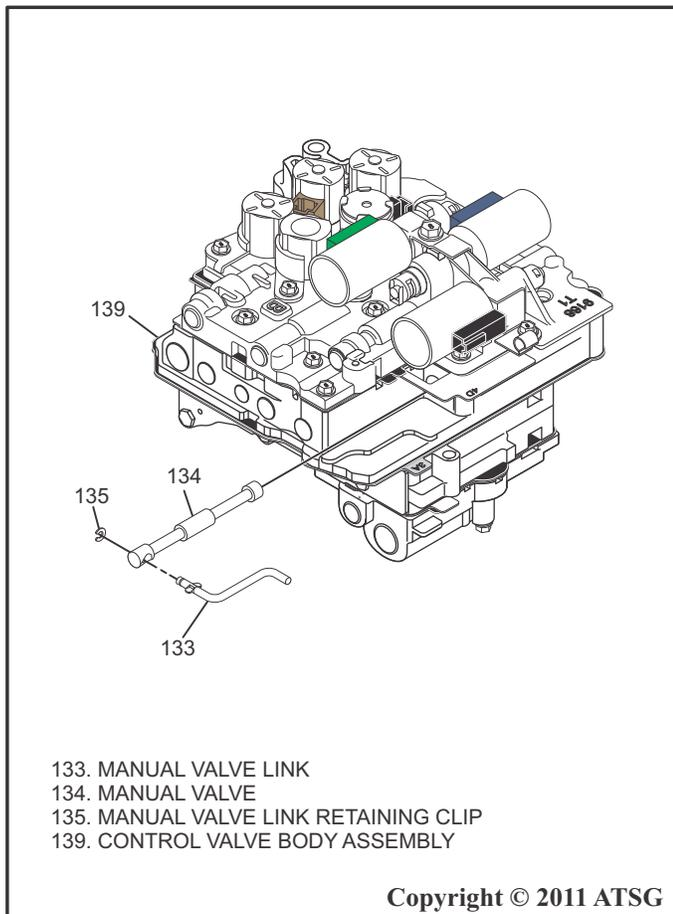

Figure 153
*NOTE: There is no need to remove the manual valve link retaining clip from the manual valve link unless the link, retaining clip, or manual valve is damaged. Disassembled view of the manual valve in Figure 153 is used primarily for illustrative purposes.*